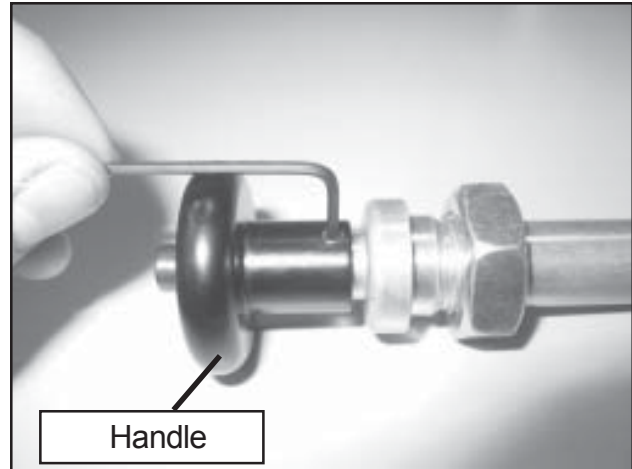

Figure 16 Black Handle
1. To route and install cable it is necessary to remove handle assembly from the cable. Remove black handle by loosening setscrew, and unscrewing handle from brass sleeve, **Figure 16**.
12. Install black handle until threads bottom out with light finger pressure, **Figure 16**. *Do not over tighten.* Tighten set screw.